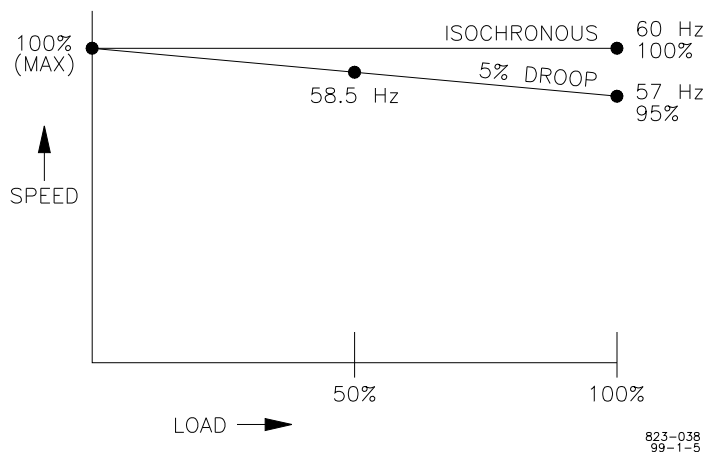

Figure 3-3. Droop Adjustment
*—If only 50% loading is possible, 58.5 Hz would indicate 5% droop (see Figure 3-3).